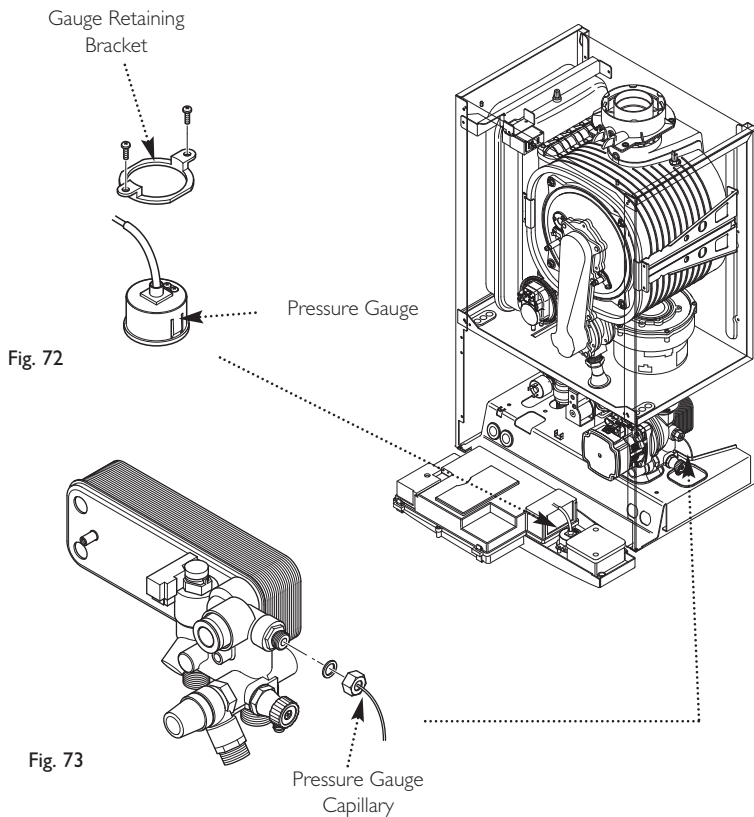

Fig. 72
13.17 Pressure Gauge (Figs. 72 & 73)